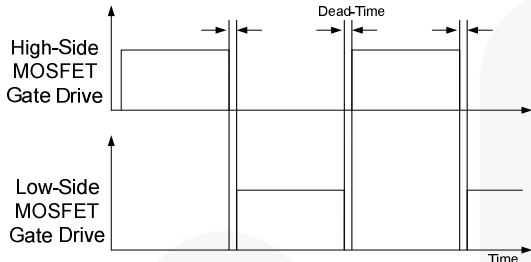

Figure 15. MOSFETs Gate Drive Signal
**1. Basic Operation.** FSFR-XS series is designed to drive high-side and low-side MOSFETs complementarily with 50% duty cycle. A fixed dead time of 350ns is introduced between consecutive transitions, as shown in Figure 15.